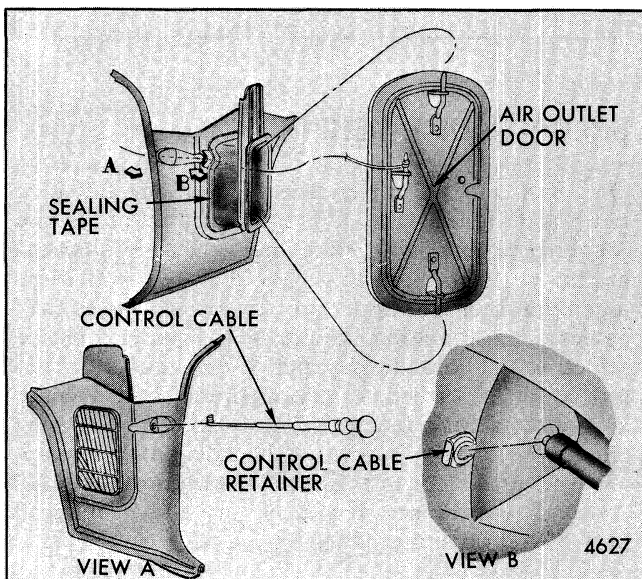

Fig. 4-6-Shroud Side Duct Air Outlet and Door
2. Integral air duct outlet in right and left shroud side finishing panels. Each duct outlet is equipped with a door and control cable (Fig. 4-6).
To remove control cable after finishing panel removal, slide eye of the control cable off pin on door assembly, remove control cable retainer (Fig. 4-6)